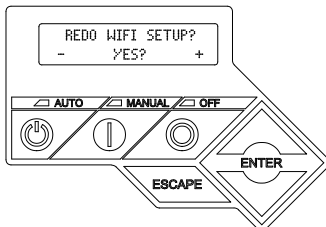

Figure 3-30. Redo Wi-Fi Setup Page
2. See Figure 3-30. Use Up/Down and ENTER buttons to scroll to the **REDO WIFI SETUP?** page. Select YES.